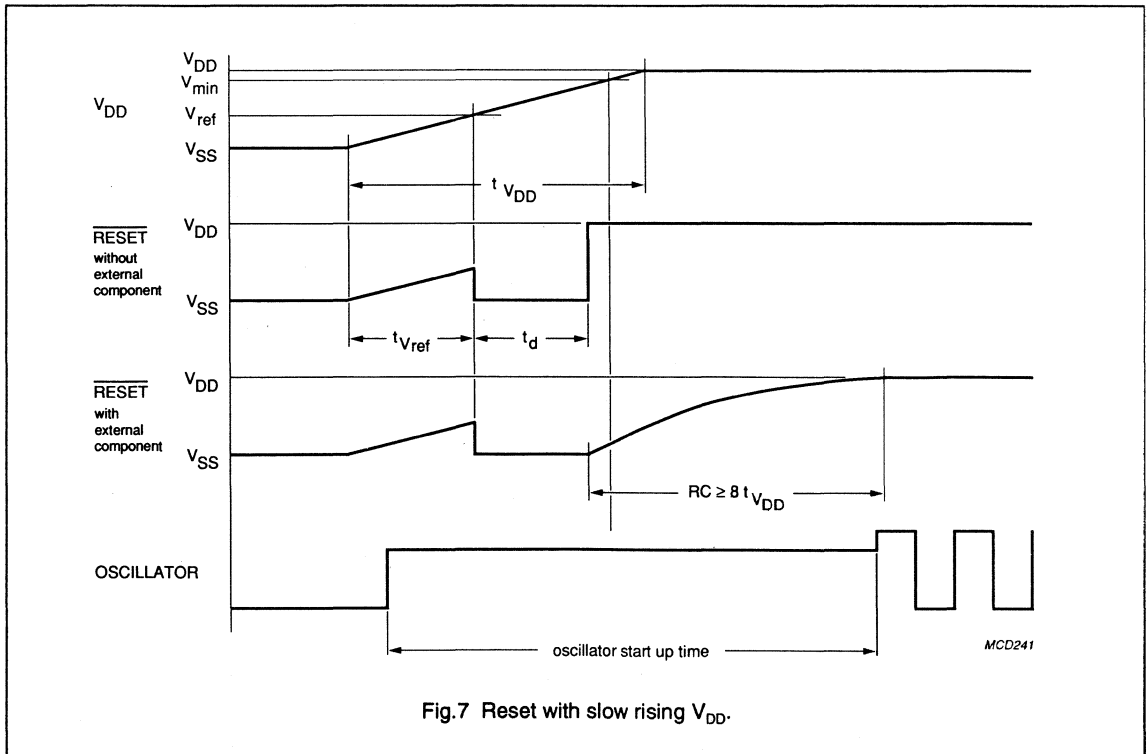

Fig.7 Reset with slow rising  $V_{DD}$ .
3. External components are required if  $V_{DD}$  has a slow rise time, such that after the time period ( $t_{Vref} + t_d$ ) has elapsed the supply voltage is still below the minimum operation voltage ( $V_{min}$ ). See Figs 7 and 4. In order to ensure a correct reset operation the time constant  $RC$  must be  $\geq 8t_{VDD}$ .